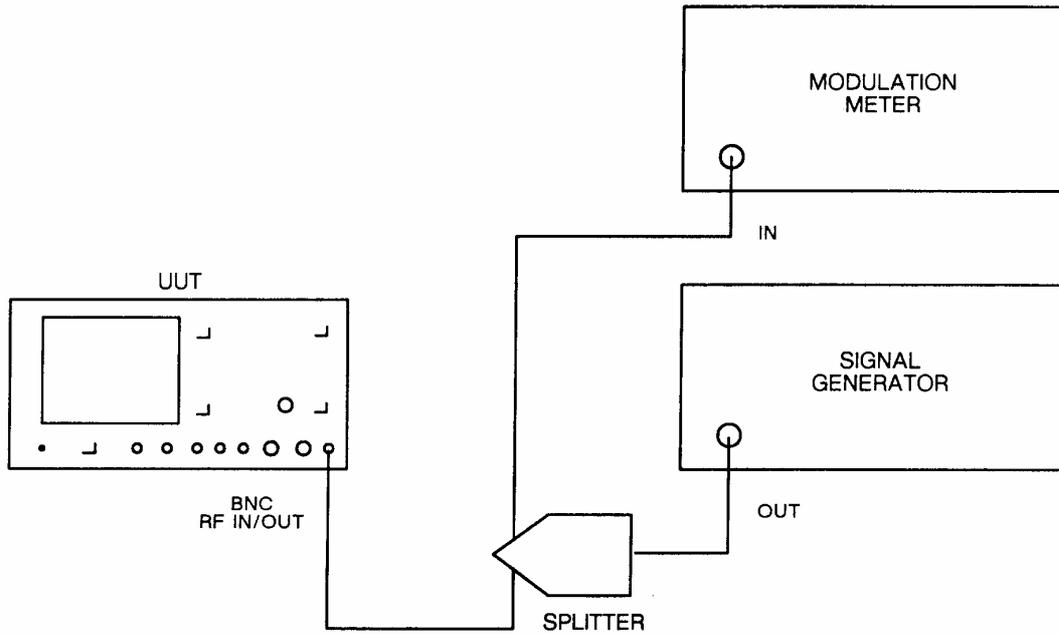

Fig. 5-1-2 Test equipment connections for oscilloscope demodulated FM gain performance checks
- (1) Connect the equipment as shown in Fig. 5-1-2.
- (2) Set the UUT to TX, FM, SCOPE, 0.3 - 3.4 kHz BAND PASS filter, BNC input socket.
- (2) Set the UUT to TX, AM, SCOPE, 0.3 - 3.4 kHz BAND PASS filter, BNC input socket.
- (3) Set the signal generator to carrier frequency 100 MHz, level 7 dBm, AM, 1 kHz internal modulation rate.
- (4) Set the modulation meter to monitor AM, (p-p)/2, in a 0.3 - 3.4 kHz bandwidth.
- (5) Set the UUT oscilloscope range to 20%/div. Adjust the signal generator depth until the waveform on the oscilloscope is shown as 80%. Check on the modulation meter that the depth limits are within 72 to 88%.
- (6) Repeat step (5) above for the remaining oscilloscope ranges and modulation depths shown in Table 5-1-3.